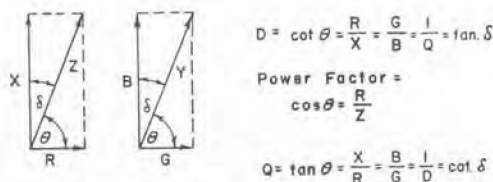

Figure 4. Vector diagram showing the relations between factors  $D$  and  $Q$ , and angles  $\theta$  and  $\delta$ .
**Dissipation Factor and Storage Factor** An important characteristic of an inductor or a capacitor is the ratio of resistance to reactance or of conductance to susceptance. This ratio is termed dissipation factor,  $D$ , and its reciprocal is storage factor,  $Q$ . These ratios are defined in Figure 4 in terms of phase angle  $\theta$  and loss angle  $\delta$ . Dissipation factor is directly proportional to the energy dissipated, and storage factor to the energy stored, per cycle. Power factor is defined as
In Figure 4,  $R$  &  $X$  are the series resistance and reactance, and  $G$  and  $B$  are the parallel conductance and susceptance of the impedance or admittance involved.